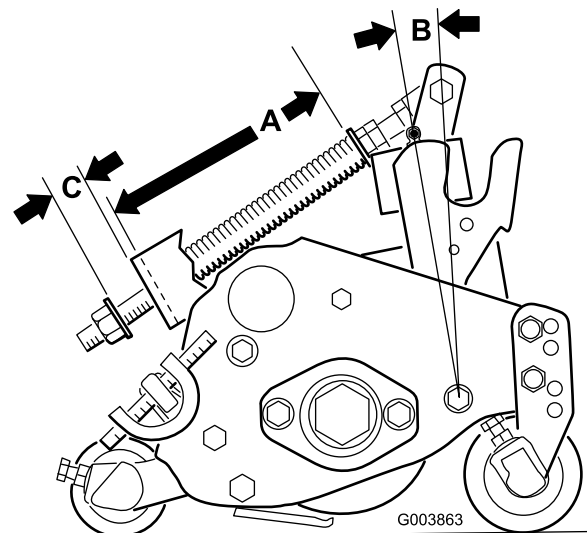

Figure 13
The turf compensation spring (Figure 13), connecting carrier frame to cutting unit, controls the amount of fore-aft rotation available.
spring bracket and front of the washer is 1.25 inches (3.2 cm) (Figure 13).
2. Tighten the hex nuts on the front end of the spring rod until the compressed length (A) of spring is 6.25 inches (32.8 cm) (Figure 13).